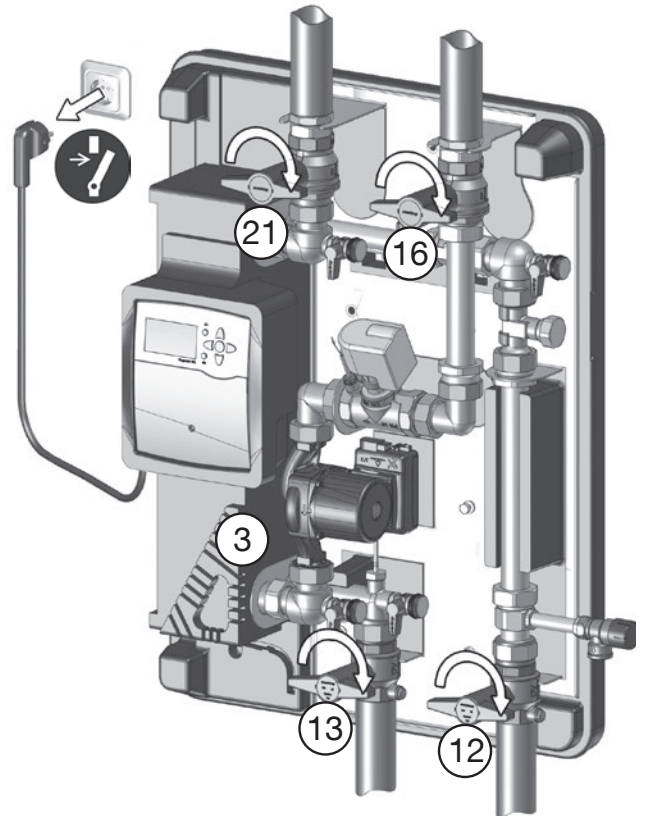

Fig. 5.1: Disconnect the controller from the power supply and close the ball valves
2. **Close the isolating ball valves (12 and 13) (potable water circuit) and (16 and 21) (storage cylinder circuit)** (Fig. 5.1).
2. **Close the isolating ball valves (12 and 13)** (potable water circuit) **and (16 and 21)** (storage cylinder circuit) (see Fig. 5.1 on page 31).